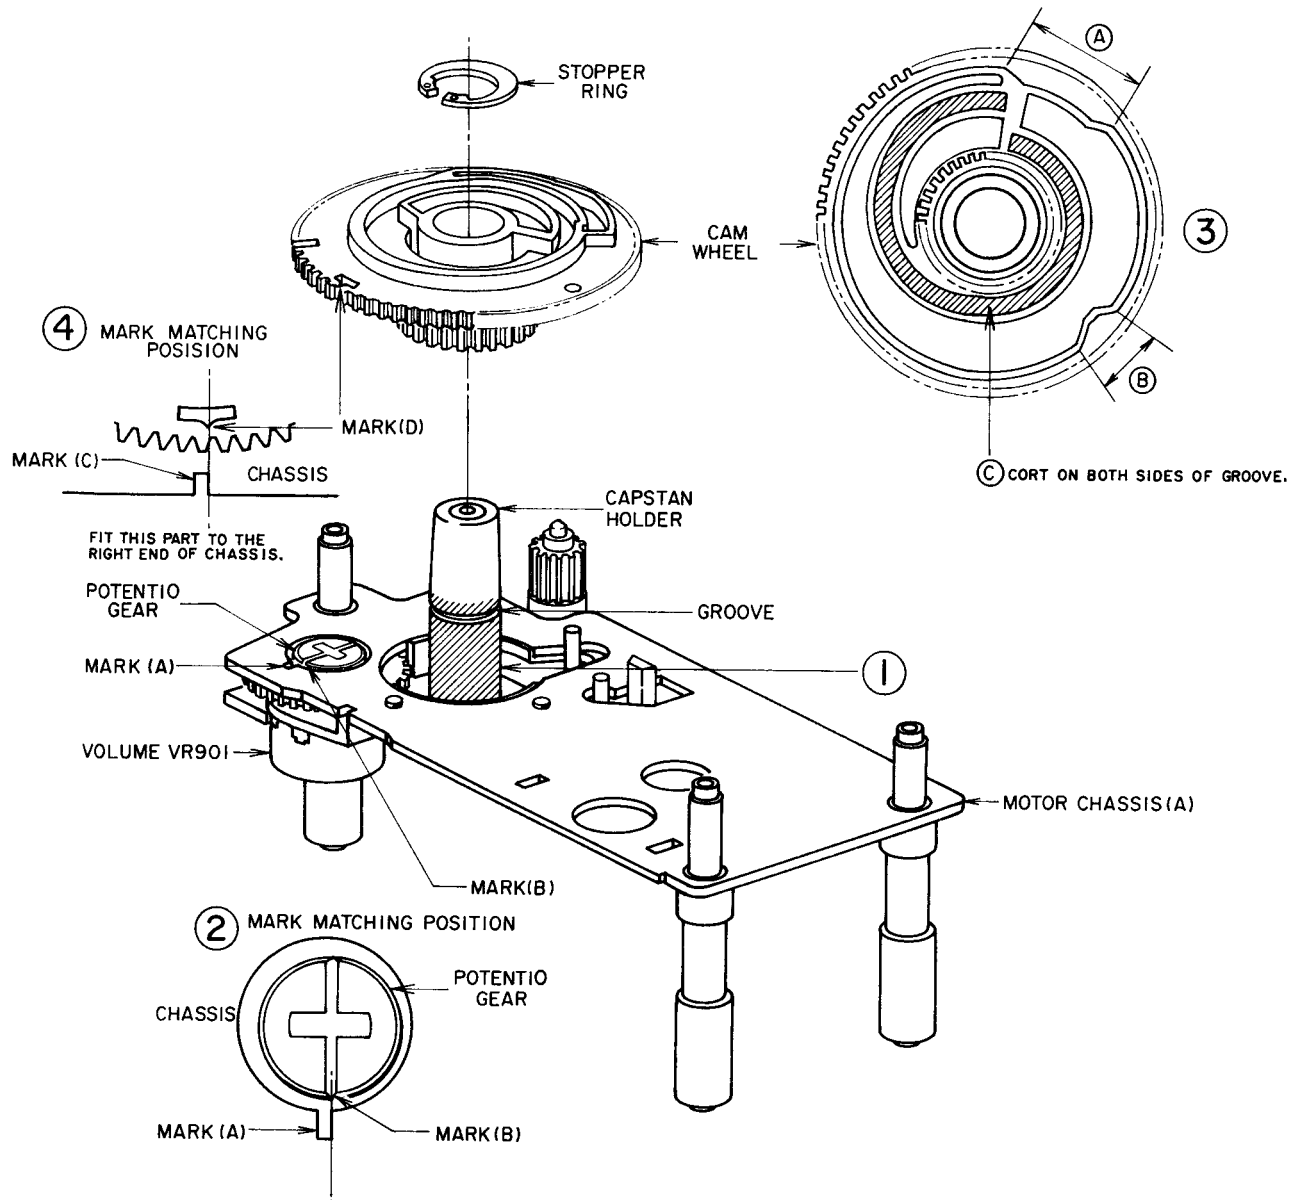

Fig. 7
Apply Molybdenum coat on the area of 360° from the bottom to the upside 2 mm of groove as shown in the figure. (Fig. 7-①)
Fit the right end of Mark (A) to the center of Mark (B) as shown in the figure. (Fig. 7-②)
- 3) Apply Molybdenum coat on (A), (B) and (C) shown in Fig. 7-③.
meshed properly). When the cam wheel is set properly, fit the center of Mark (D) to the right end of Mark (C). (Fig. 7-④)